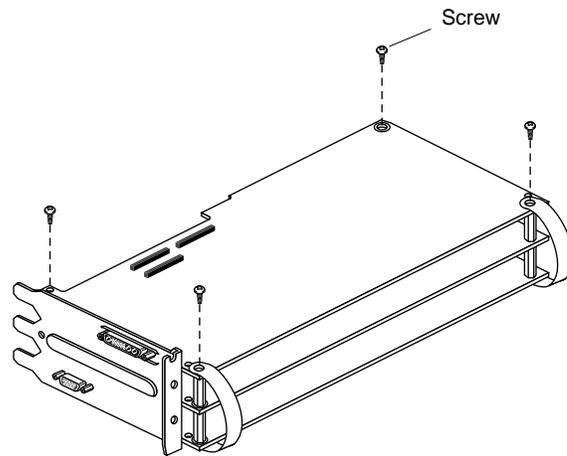

Figure 1-19 Removing the Graphics Board Set Screws
3. If no option board is attached above the graphics board, remove the four screws from the corners of the graphics board set, as shown in Figure 1-19. Detach the pull straps from the top of the board. They are held in place by adhesive as well as screws.